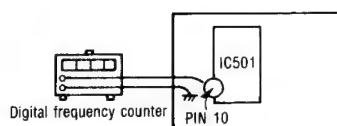

Fig. 28
1. Test equipment connection is shown in fig. 28.